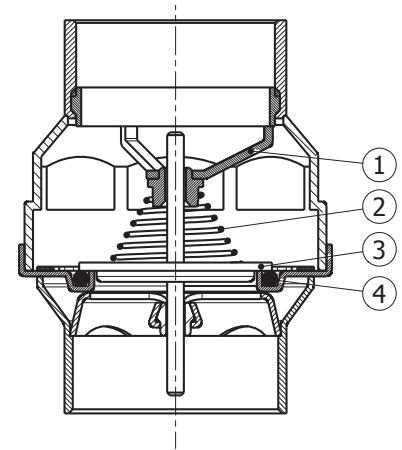

Fig. 2
- There are no spare parts for valve up to 2" in size. For 2"1/2, 3" and 4" valves, you can replace the disc guide (ref. 1 Fig. 2), spring (ref. 2 Fig. 2), disc (ref. 3 Fig. 2) and seal ring (ref. 4 Fig. 2).